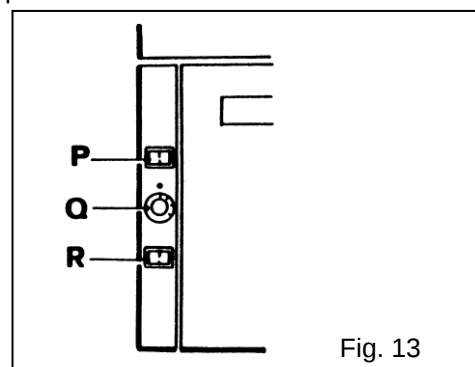

Fig. 13
7.2 Electric warm cabinet (Fig. 13)